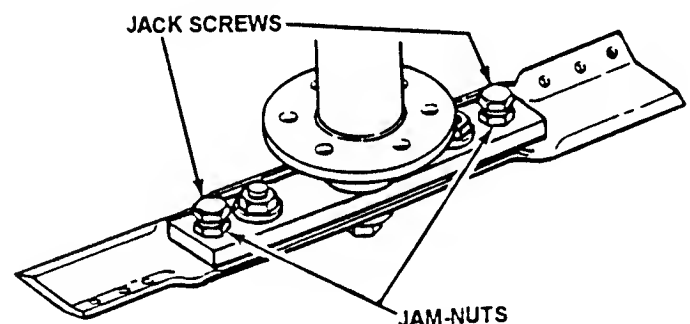

FIGURE 4.9
- b. Adjust jack screws "IN" or "OUT" until blade tip measurements are within 1/16" of each other and blade tips are 3/8" away from deck lip. See Figure 4.9.